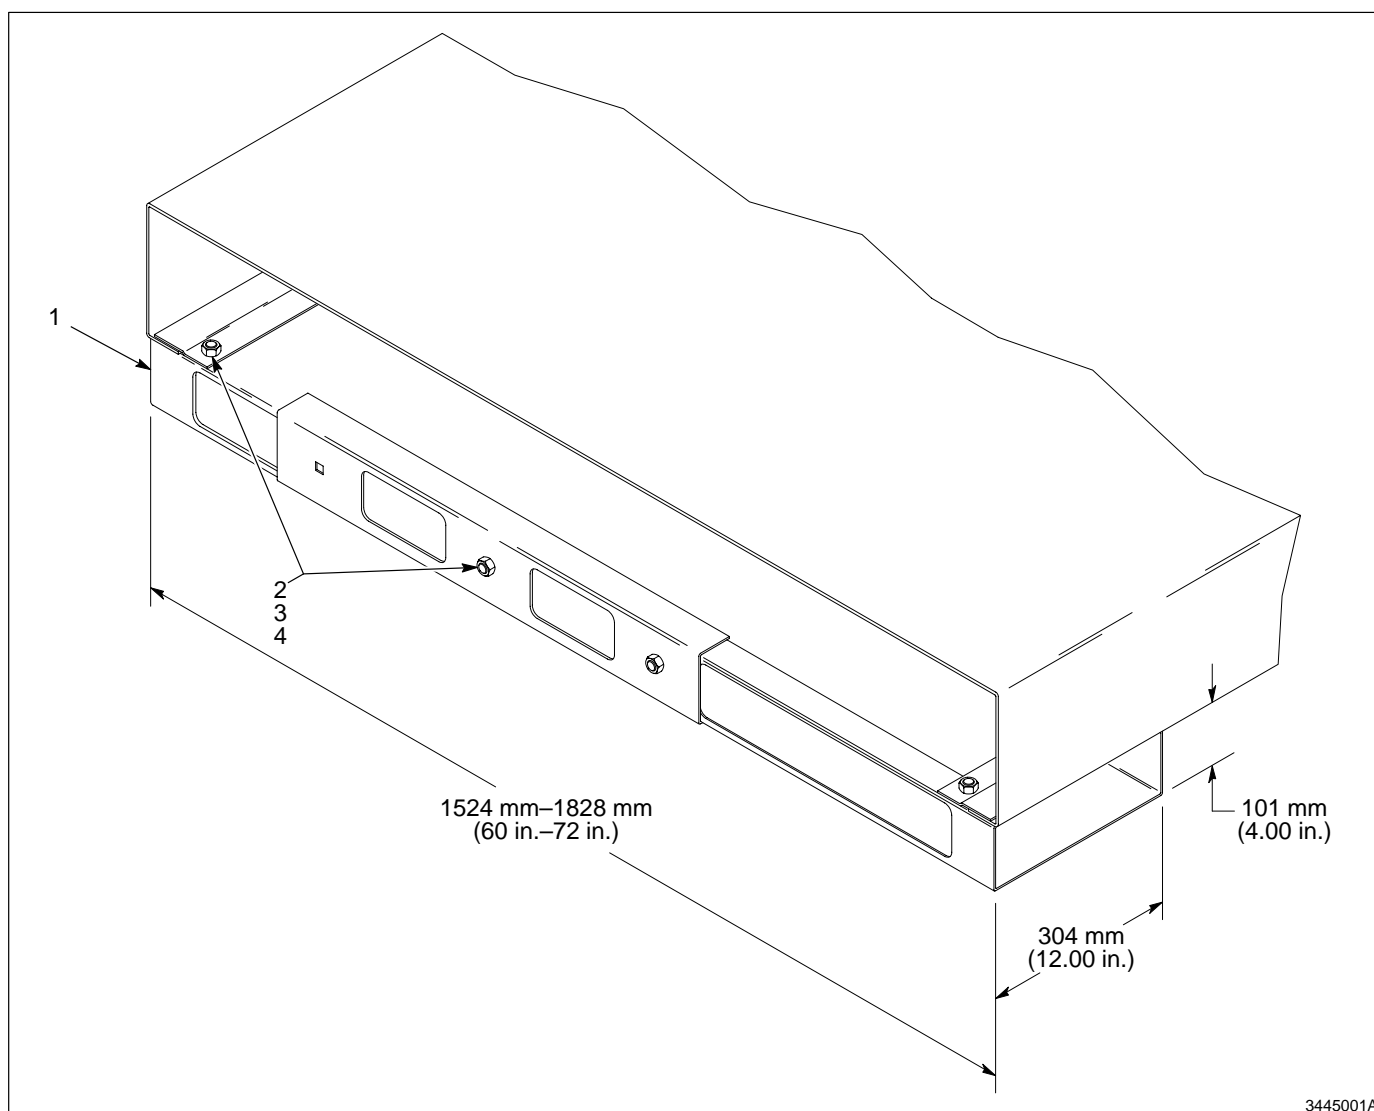

Fig. 1 Excel and CK-SL Hose Routing Tray
See Figure 1. Using the provided carriage bolts (2), lock washers (3), and nuts (4), mount the hose routing tray (1) to the Excel or CK-SL powder-coating booth.
See Figure 1.